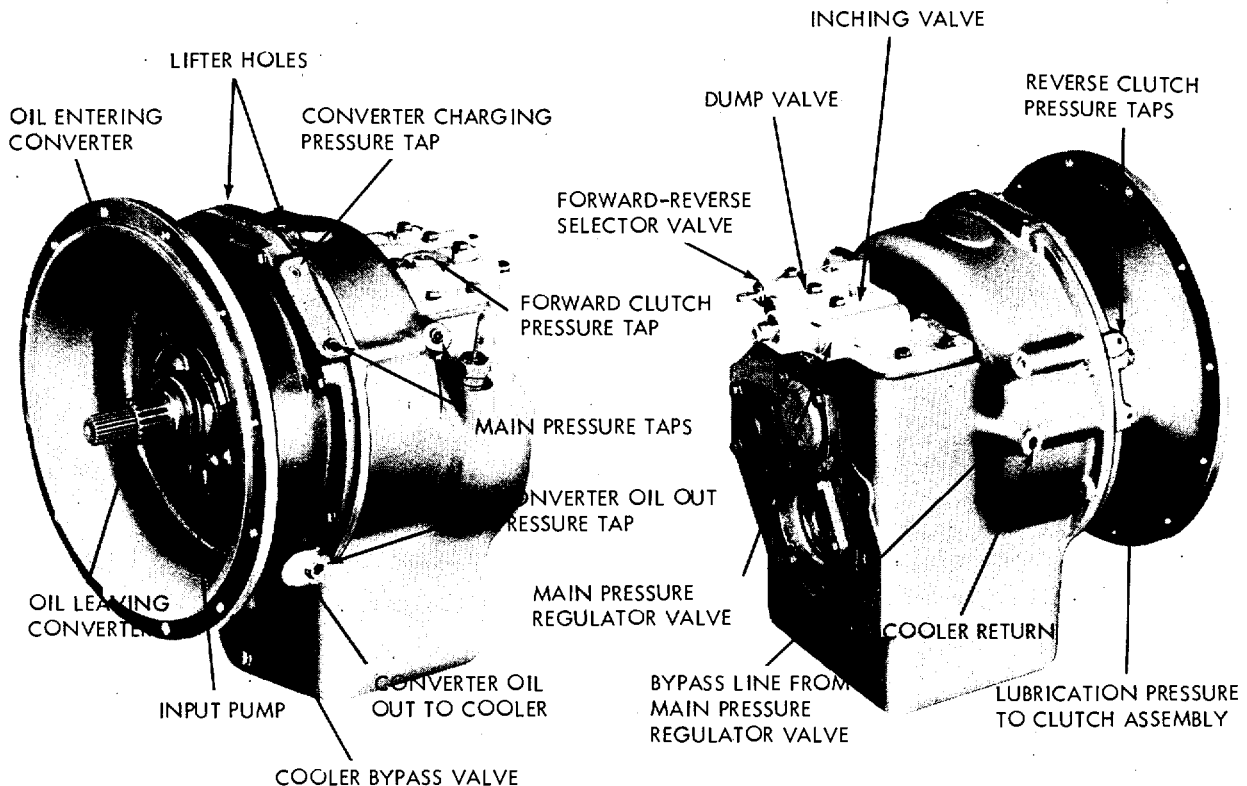

Figure 6-15. Transmission, Showing Pressure Check Points
(1) To test pressures of hydraulic supply system of transmission, remove truck floor pan for access and connect pressure gage into CONVERTER CHARGING PRESSURE port (figure 6-15), start engine and run at 2000 rpm until transmission oil reaches 180 deg to 200 deg F. Gage should read 84 to 101 psi.
(2) Connect gage to either MAIN PRESSURE port. Gage should read 120 to 135 psi.
(3) With inching valve in (brake pedal released), plug CONVERTER OIL OUT line to cooler. Increase speed slowly from idle. Gage at COOLER BYPASS VALVE port should rise to maximum of 50 to 70 psi.
(1) Drain oil from transmission. Disconnect leads at neutral safety switch and at transmission warning light transmitter.
(2) Disconnect oil cooler hoses at cooler bypass valve (figure 6-15) and cooler return port. Cap hoses and plug ports to exclude dirt.
(3) Disconnect inching and shifting linkage at control valve.
(4) Place wheeled floor jack or equivalent beneath transmission to relieve weight, and remove nuts, screws and washers from rubber sandwich mountings. Remove mountings.
(5) Remove twelve screws and washers which attach transmission to engine.